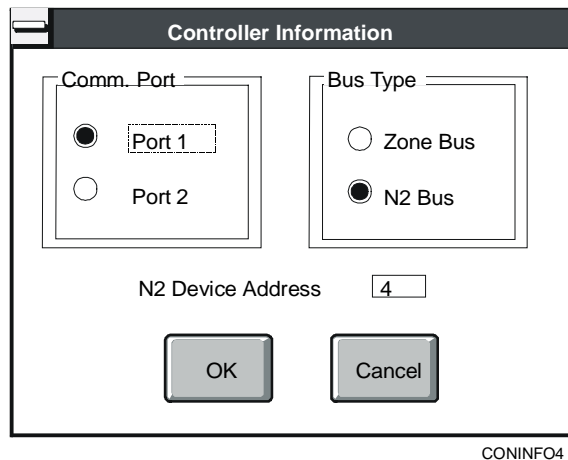

Figure 15-4: Communication Parameter Verification Dialog Box
2. Select Single Device and click OK. A dialog box similar to Figure 15-4 appears.